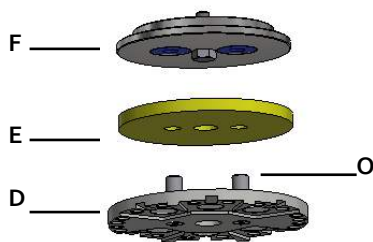

Fig 4
3. Choose the appropriate tooling holder attachment – magnetic Plug 'N Go plate (D Fig 4) for Metal Bond tools or Foam Hook and Loop Adapter plate for polishing resins and sandpaper.
4. Insert the two shear pins (O Fig 4) through the compression foam pad (E Fig 4) into the rubber grommets on the pad driver (F Fig 4). Attach the corresponding tooling to the plate.
To install and remove the pad driver (F Fig 4) on the bottom of the machine, you will need a 17 mm socket wrench, a soft face mallet, and some medium-strength threadlocker (blue Loctite 243 or equivalent).
To replace a broken shear pin (0 Fig 4):
1. Remove the Plug 'N Go plate (D Fig 4) from the pad driver (F Fig 4). Before replacing the shear pin apply a generous amount of permanent red threadlocker (Loctite 266) on the screw and into the hole.
1. Remove the Plug 'N Go plate (D Fig 4). Remove the bent shear pin by hitting with a hammer. Before replacing the shear pin apply a generous amount of permanent red threadlocker (Loctite 266) on the screw and into the hole; tighten.
3. Remove the Plug 'N Go plates and pad drivers (Fig 4).